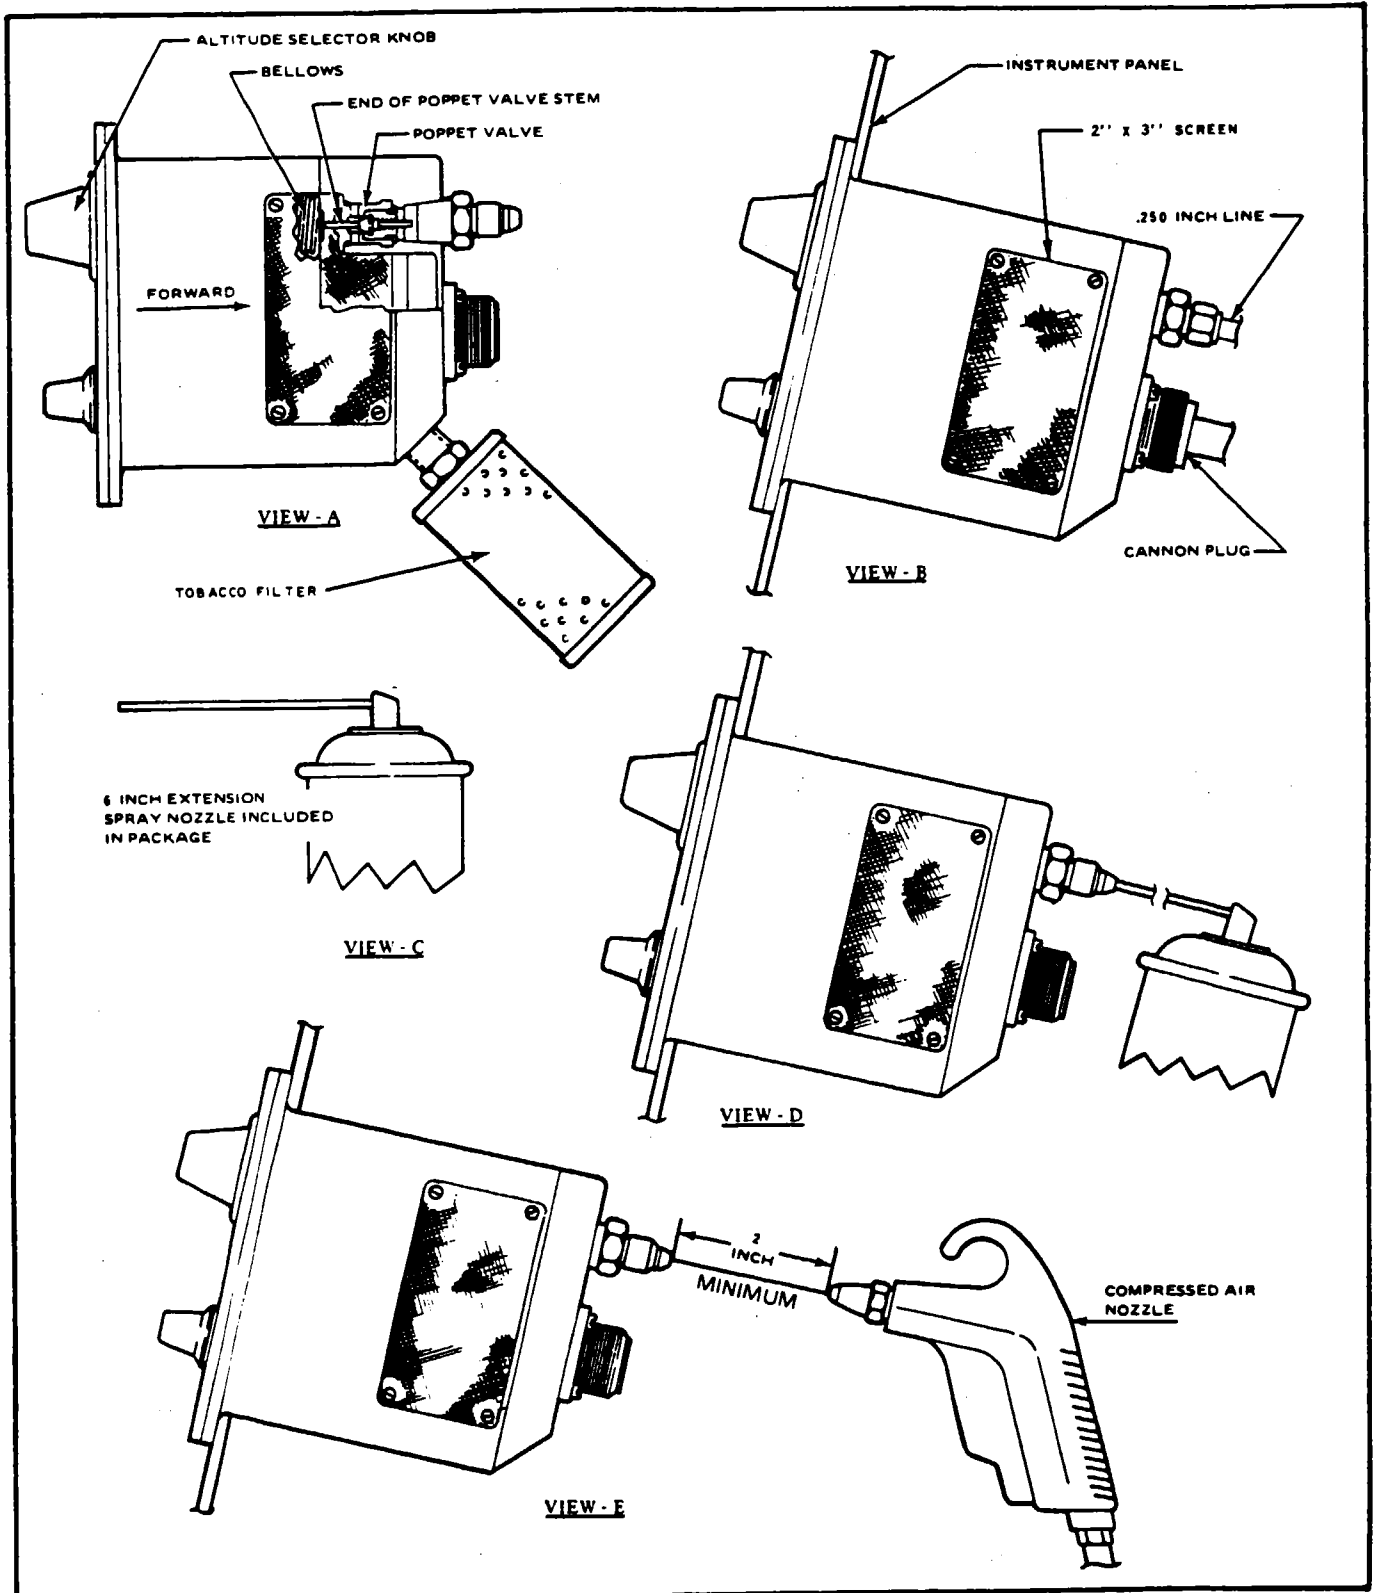

Figure 13-37. Cleaning of Pressurization Controller
13-137. PRESSURIZATION CONTROLLER CLEANING. (Refer to Figure 13-37.) Fluctuation of cabin pressurization, when the system is properly set up after takeoff, could be caused by a sticking poppet valve in the pressurization controller, located in the lower left corner of the instrument panel. The cause of this problem is tobacco deposits on the poppet valve. The degree of fluctuation depends on how long the deposits have been present and how much smoking occurs in the cabin during flights. The following information should be used to clean the poppet valve and correct the problem:
- c. Attach the spray extension to the aerosol can. (Refer to Figure 13-37.)
- e. Insert the spray nozzle about 1.50 inches into the controller through the .250 fitting. (Refer to Figure 13-37.)
g. Using a compressed air nozzle as shown in Figure 13-37, blow into the fitting to remove all solvent and residue. Maintain minimum 2" distance from controller port.
j. With the controller removed from the panel, remove the four small screws holding the 2 x 3 inch screen on the side of the controller and remove the screen. Due to the screws being of different lengths, they should be marked so they may be reinserted in their proper locations. The end of the poppet valve stem is now accessible. (Refer to Figure 13-37.)